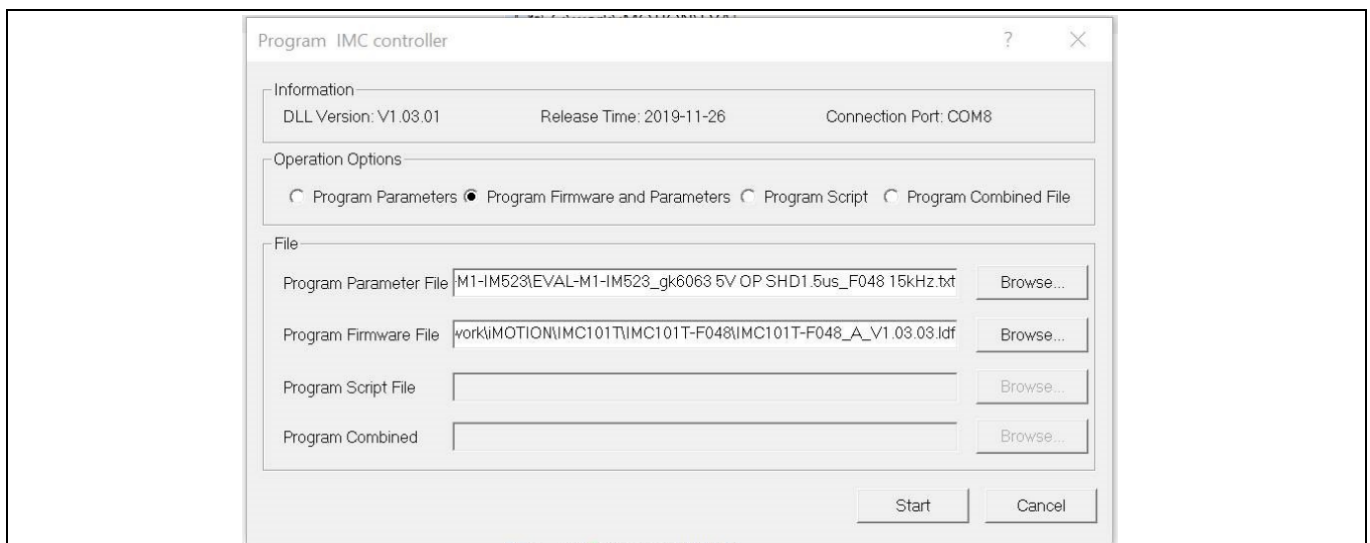

Figure 8 MCEDesigner's program page
- Click **Tools** > **Programmer** and select Program Firmware and Parameters, as shown in Figure 8.